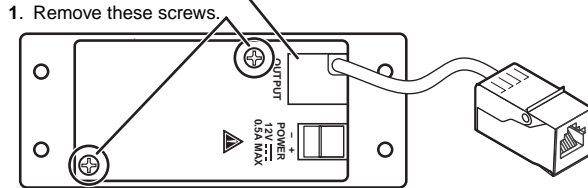

Figure 2-5 — Removing the MTP cover
1. Remove and retain the two screws that secure the back cover to the MTP (figure 2-5).